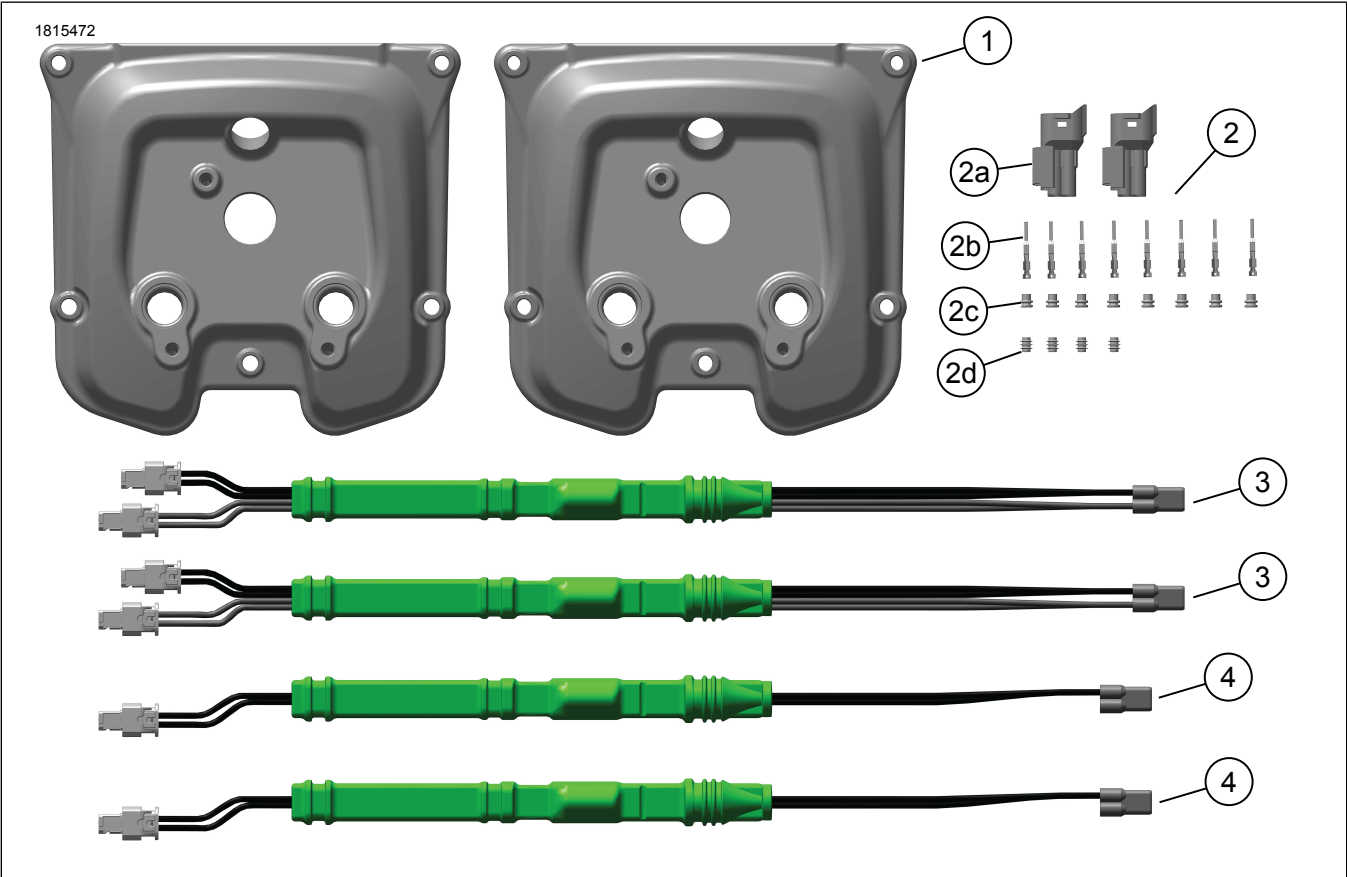

Figure 1. Kit Contents: Revolution Max VVT Service Kit
6. Install wires into cavities of 4-pin connector (2a). See Figure 1.